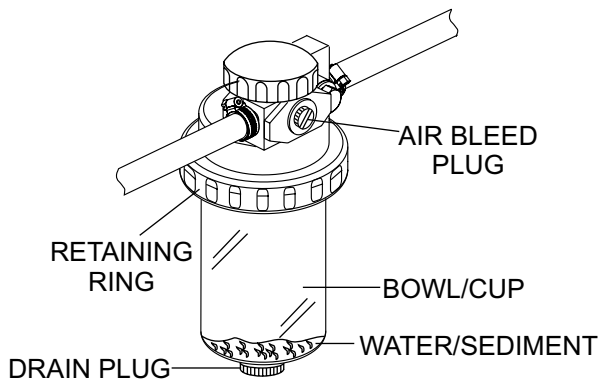

Figure 48. Fuel Water Separator
1. Inspect fuel water separator bowl (Figure 48) daily. If the bowl has collected a significant amount of water and sediment at the bottom of the bowl, it should be drained off.